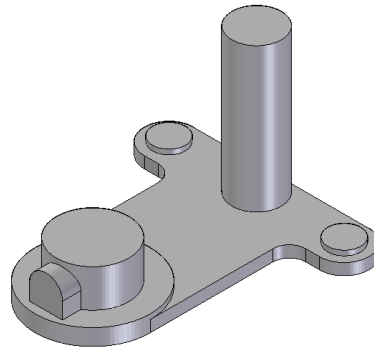

Figure 8-58 Model after adding the remaining protrusion features
- b. Add the remaining protrusion features to the base feature, refer to Figure 8-58.
1. Add the remaining protrusion features to the model, as shown in Figure 8-58.